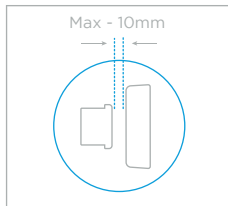

Fig 2
- Position the sensor and magnetic contact as close to each other as possible. The maximum supported gap is 10mm (Fig 2). To confirm that the sensor is working, separate the contacts and the red LED will start flashing.